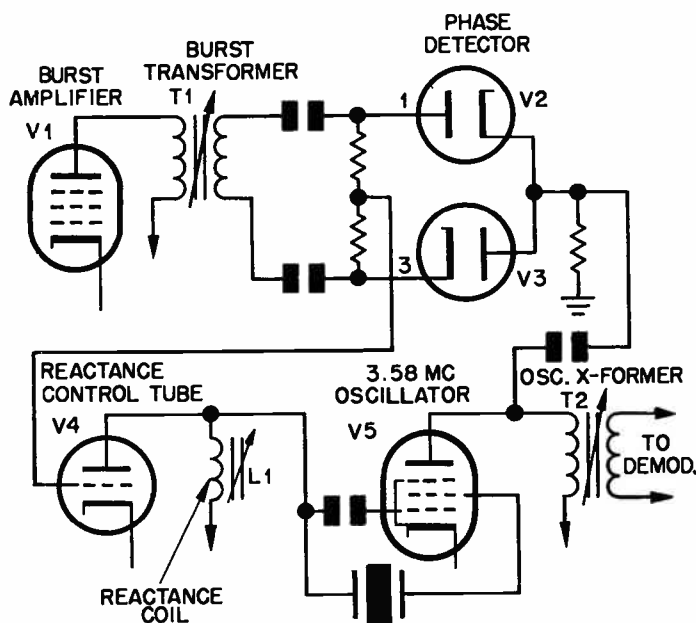

Fig. 21. Simplified schematic showing the adjustment points in the color AFPC system.
Making the alignment adjustments is a valuable troubleshooting procedure for isolating trouble in the afpc section. Since you disable individual stages of the afpc system during adjustment, you can tell which stage is not operating properly. Fig. 21 shows a simplified schematic of a typical afpc system with adjustment points identified. Follow the steps on this diagram as we go through the adjustment procedure.
Step 1. Short the control grid of the burst amplifier V_1 in Fig. 21 to ground with a short jumper.
Step 1: Remove the short from the grid of the burst amplifier, V_1 in Fig. 21. The reading on the vtvm should increase indicating the additional voltage produced by the burst signal.